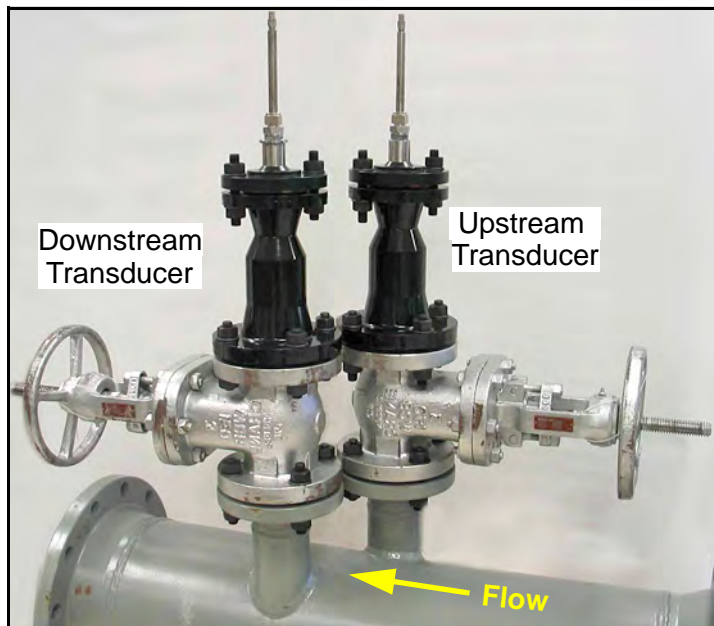

Figure 8: Extended Range Transducer Installation
1. Verify that the downstream transducer is located on the right to a person looking from the downstream end of the pipe (see *Figure 8* below). Contact GE if the port locations do not follow this convention.